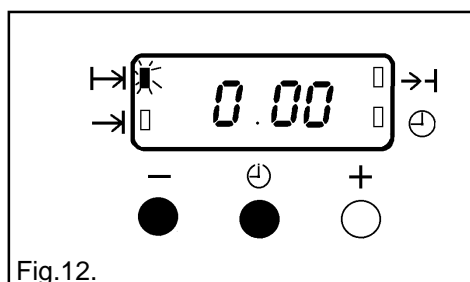

Fig.12.
- i) To cancel an automatic programme press the Selector Control button until the 'Cook Time' indicator (T→) neon flashes. Press the decrease control ( - ) until the display reads 0.00 as Fig. 12.